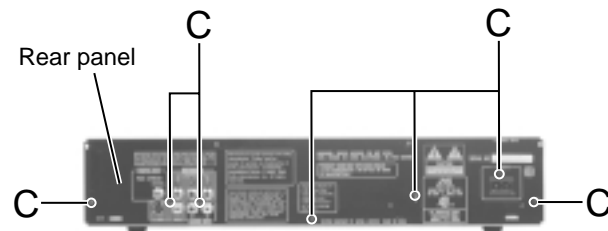

Fig.2
■ Removing the rear panel (See Fig.2)